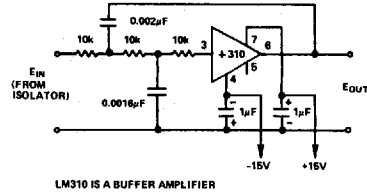

Figure 13. 2-Pole, 5kHz Active Filter
1 Gain temperature drift is specified as a percentage of output signal level.2 Gain nonlinearity is specified as a percentage of 10V p-p output span.3 When isolated power output is used, nonlinearity increases by ±0.002%/mA of current drawn.4 G = 1V/V; with 2-pole, 5kHz output filter (see Figure 13).5 Recommended power supply, AD1 model 904, ±15V @ 50mA output.
**Noise Reduction in Data Acquisition Systems:** Transformer coupled isolators must have a carrier to pass dc signals through their signal transformers. Inevitably some carrier frequency ripple passes through to the isolator output. As the bandwidth of an isolator becomes a larger fraction of its carrier frequency, this ripple becomes more difficult to control. Despite this difficulty, the model 289 produces very low ripple; therefore, additional filtration will usually be unnecessary. However, in some applications, particularly where a fast analog-to-digital converter is used following the isolator, it may be desirable to add filtration; otherwise, ripple may cause inaccurate conversions. The 2-pole low-pass shown in Figure 13 limits isolator bandwidth to 5kHz, which is the full power bandwidth of the model 289. Carrier ripple is much reduced. Another beneficial effect of an output filter is smoothing of discontinuous high frequency waveforms.